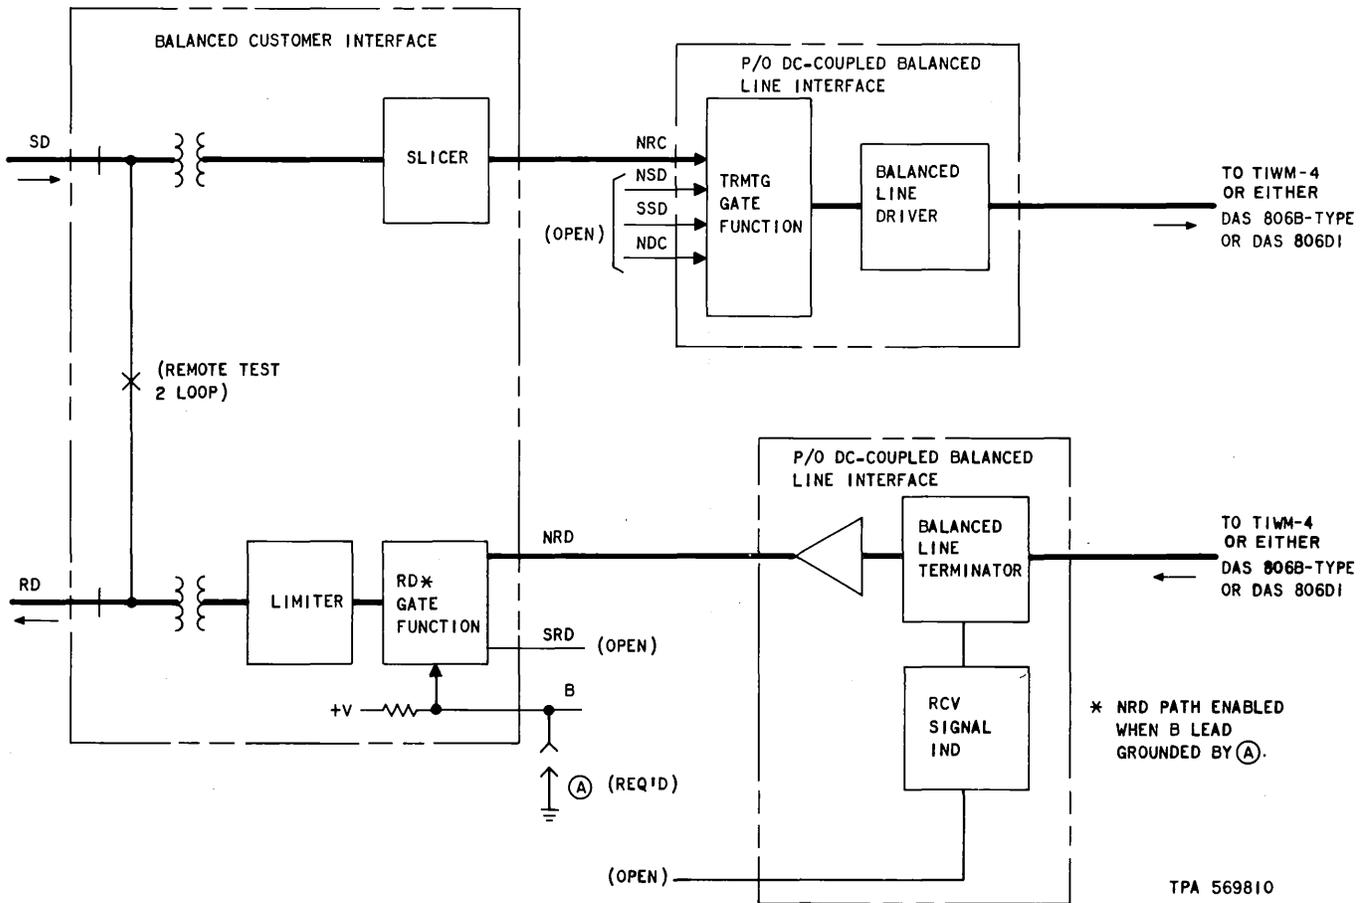

Fig. 20—DC-Coupled Line Signal—Nonsynchronous Operation With Balanced Customer Interface, Functional Block Diagram
**3.94** Operation of a nonsynchronous data set equipped with a balanced customer interface is similar to that of a nonsynchronous data set equipped with an unbalanced customer interface (3.85 through 3.93). The differences are that (1) control logic is not used, (2) the data set is always functional, and (3) option A must be installed. Figure 20 shows a functional block diagram of a dc-coupled balanced line data set operating nonsynchronously with balanced customer interface. Refer to 3.50 through 3.54 for a description of the balanced customer interface.